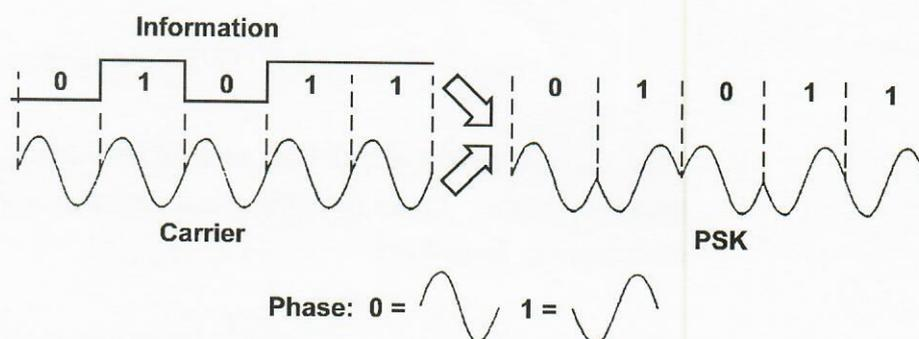
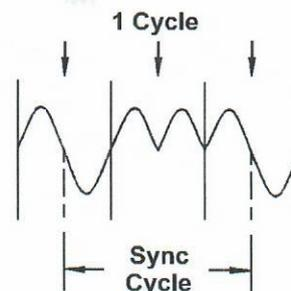

Figure 19-1 PSK modulation
Figure 19-5 Synchronization cycle
As mentioned in Chapter 18, phase-shift keying (PSK) modulation process may be viewed as the special case of phase modulation (PM). The PSK modulation is shown in Figure 19-1.
In Figure 19-1, the carrier signal is a sinusoidal wave with fixed frequency and amplitude, the modulating signal is binary information. If input information is a low (0), the carrier signal maintains its phase. If input information is a high (1), the carrier reverses its phase by 180 degrees. The pair of sinusoidal waves that differ only in a relative phase-shift of 180 degrees are referred to as antipodal signals. This type of phase-shift keying is called binary PSK (BPSK) or phase-reverse keying (PRK).
If a sync cycle is required, sync cycle control circuit will produce a control signal to control the output data of control shift register, and then a sync cycle signal will present at modulator output. The format of sync cycle shown in Figure 19-5 is used in our experiments. This sync cycle signal is different from the PSK/QPSK modulated signals shown in Figures 19-1 and 19-2. The sync cycle signal can be identified by the sync cycle detector in PSK/QPSK demodulator and can be viewed as an identification word.